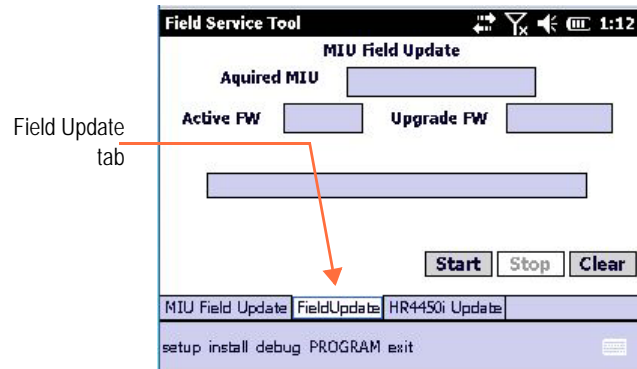

Figure 3.31 Field Update Screen
Figure 3.31 illustrates the Field Update tab, an additional program for the FST.
- 1 On the Field Update tab (Figure 3.31 on page 3-31), click **Start**.